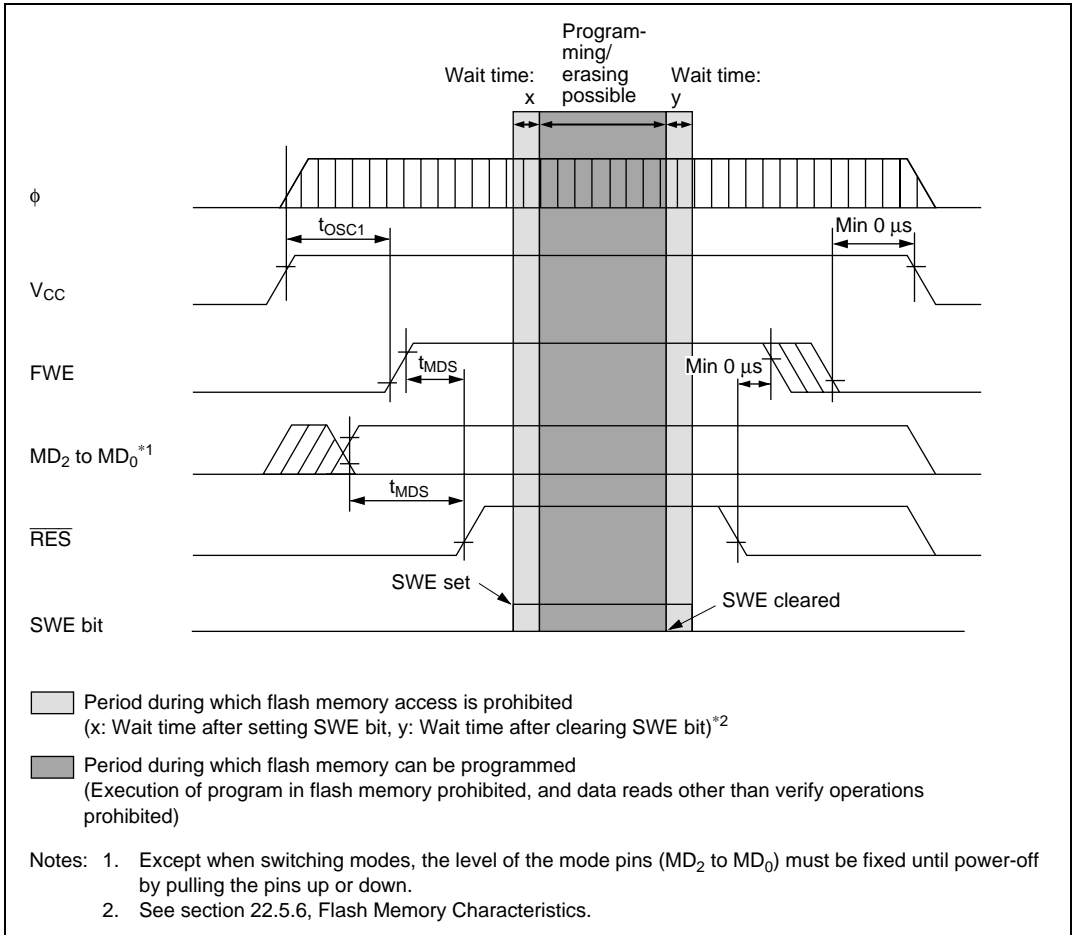

Figure 19.16 Power-On/Off Timing (Boot Mode)
2. Powering on and off (See figures 19.16 to 19.18)